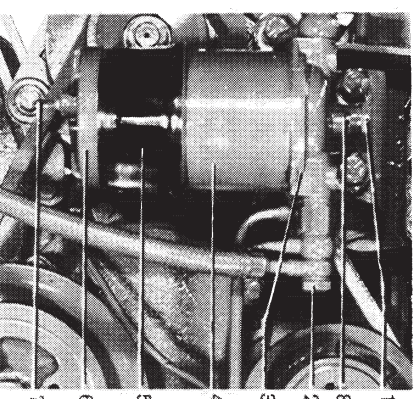
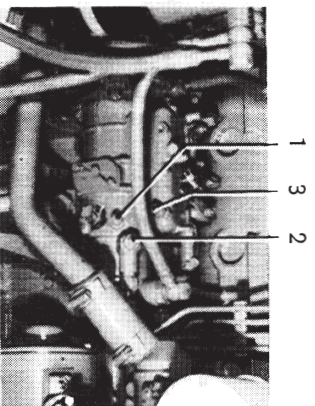

Fig. 19. Fine filter and water separator
Fig. 20. 4-cyl. engine
Each day before starting check to see if water has collected in the bottom of the container. If this is the case, the water can be drained through the drain cock (7 Fig. 19). Then vent the system (see point 9).
Thoroughly clean the entire filter housing externally. Clean the inside of the container also thoroughly (see Fig. 19). Check that the seals are not damaged. Fit a new filter. Vent the fuel system (see point 9).
Open the venting screw (1, Fig. 19) on the fine filter. Manually pump with the feed pump until fuel without air is obtained. Tighten the venting screw.
1. Replace the banjo screw (2, Fig. 19) with a special screw, part. No. 884308 (can be ordered from AB Volvo Penta dealer).
2. Open the venting screws 1, 2 and 3 according to Fig. 20 or 21 and 1, Fig. 19, also disconnect the delivery pipe connections on the injectors.
3. Manually pump with the feed pump until fuel without air is obtained at 1, Fig. 19, then tighten the venting screw. Continue pumping until fuel without air is obtained at 1, Fig. 20, or 21. Tighten the screw.
5. Move the speed control to full throttle. Turn the engine with the help of the starter motor until fuel without air is obtained at 2, Fig. 20 or 21. Tighten the screw.
7. Start the engine. When fuel flows at 3, Fig. 20 or 21, then tighten the screw securely.